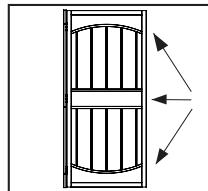

FIGURE 3
3. Place the **stationary door** (the one without locksets) in front of opening at desired height, making sure that the security door is vertical and plumb. Determine where to drill by marking through the pre-drilled holes on the **hinge bar** with pencil (Fig. 3).